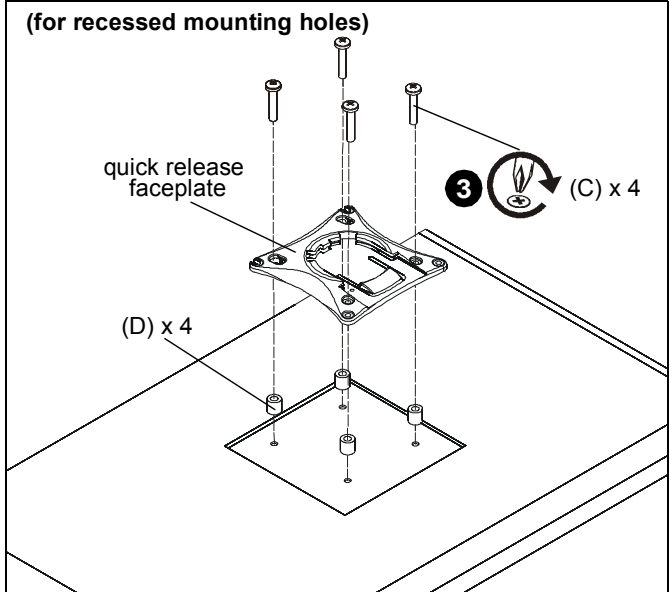

Figure 4
- Using Phillips screwdriver, carefully install four M4x25mm screws (C) through corresponding holes on faceplate, spacers (D) and into the mounting holes on the display. (See Figure 4)